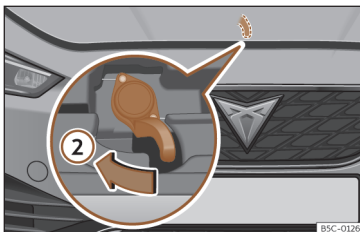

Fig. 218 Lever under the bonnet.
- To lift the bonnet, press towards the left on the lever located under the bonnet, in the centre»» Fig. 218 ②. The arrester hooks are released.